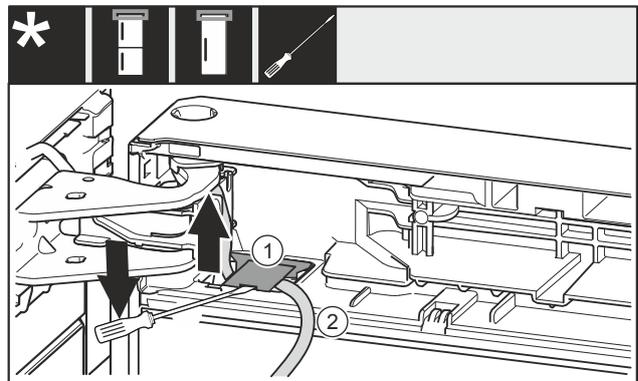

Fig. 25
- ▶ Use the slotted screwdriver to lift the cover Fig. 25 (1) up and pull it out.
- ▶ Pull out the cable Fig. 25 (2).